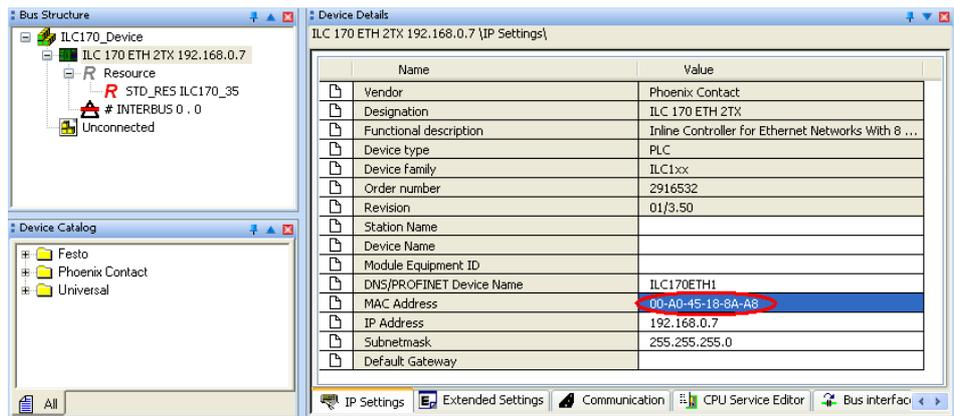

Figure 3-30 Entering the IP address
- Switch to the bus configuration workspace, see Figure 3-30